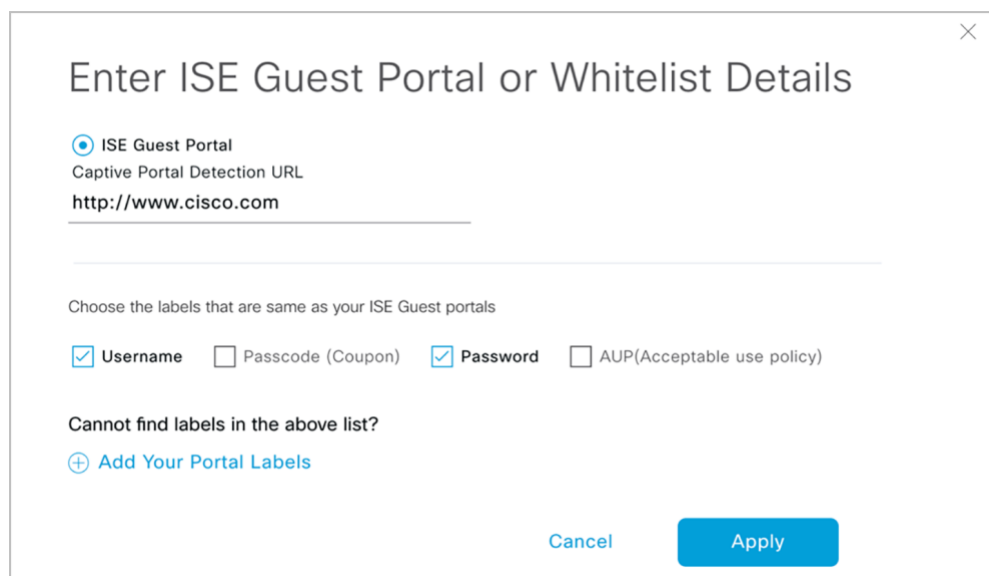

Figure 60.
- d. If ISE Guest Portal is selected, choose the labels that correspond to those in your ISE guest portal (**Figure 60.**).